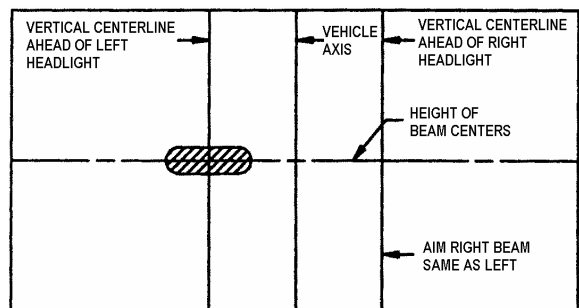

FIGURE 35: HIGH-INTENSITY ZONE (SHADED AREA) OF A PROPERLY AIMED UPPER BEAM ON THE AIMING SCREEN 7.6 M (25FT) IN FRONT OF VEHICLE
5. High beam headlights are aimed so that the center of the high-intensity zone is located at the horizontal and straight ahead vertically (Fig. 35).